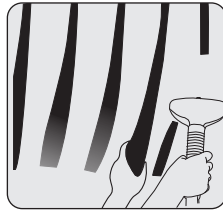

FIGURE 13
5. Curtains and draperies can be steam while still hanging. Refer to figure 13.